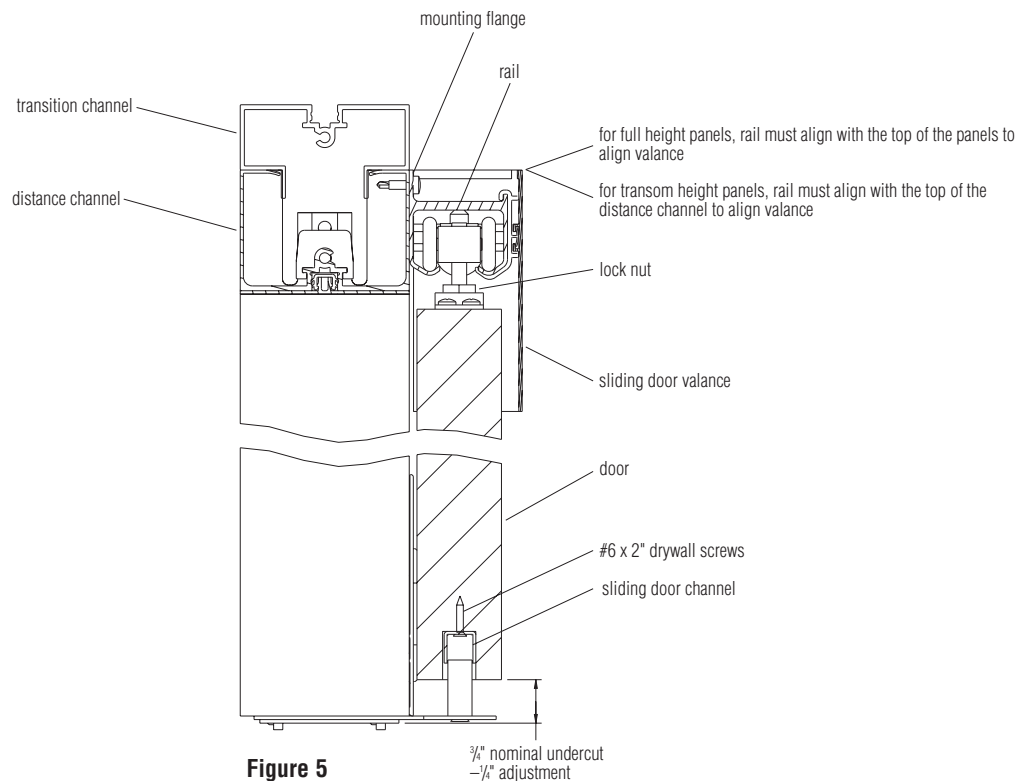

Figure 5
9. Secure the rail by installing #10 x $\frac{3}{4}$ " long PPH self-drilling screws through the clearance holes in the rail and into the frame members (Figure 5).
10. The door can be adjusted $\pm \frac{1}{4}$ " (Figure 5).